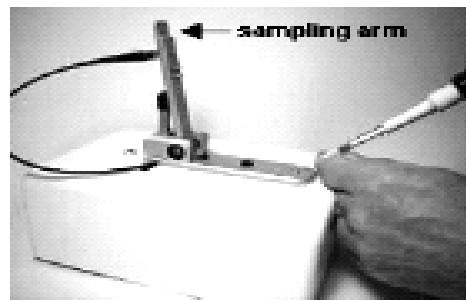

Figure 2 Loading of the Sample
- 6.5 To initialize the instrument, lift up the sampling arm, load 2  $\mu$ L of Milli-Q water or equivalent, onto the measurement pedestal, lower the sample arm, then select “OK” (See Figure 2). Wait until the message “**Initializing the Spectrometer – please wait**” disappears before commencing use of the instrument for measurement.